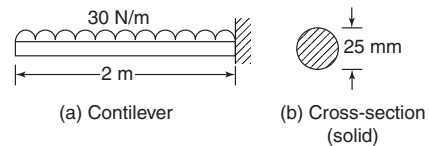

Figure 8.10
6. A cantilever of length 2 m, carries a uniformly distributed load of 30 N/m, as shown in Figure 8.10. Determine the maximum stress in the cantilever.
9. If the beam of Figure 8.10 were replaced by another beam of the same length, but which had a cross-section of tee form,